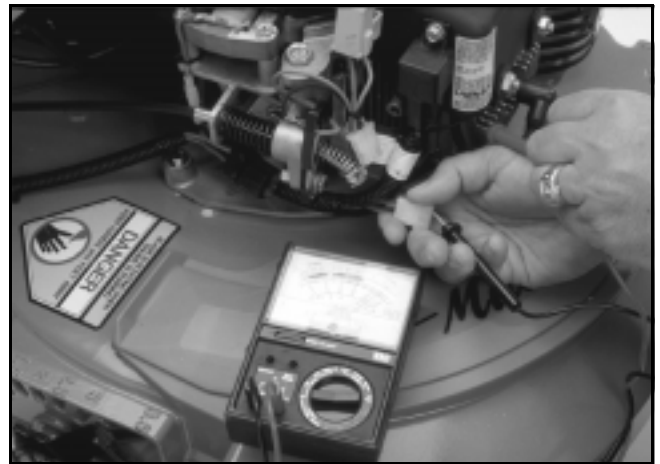

Figure 105
1. Disconnect the electronic cup assembly from the wiring harness. Connect one ohmmeter (RX-1 scale) lead to the green wire of the wiring harness and the other to the engine block. (See Figure 105.)